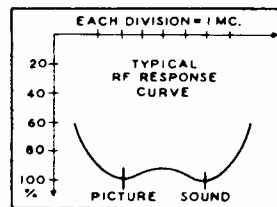

FIG. 16
shown in Fig. 16, then, (1) attempt to obtain a better compromise for RF response on all channels by realigning RF Amp. and Mixer circuits, or (2) try replacing Antenna, RF and Oscillator coils for the particular channels.